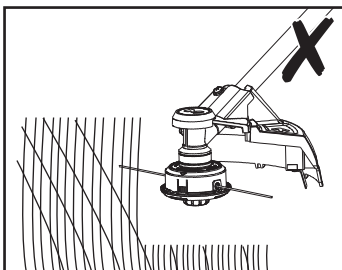
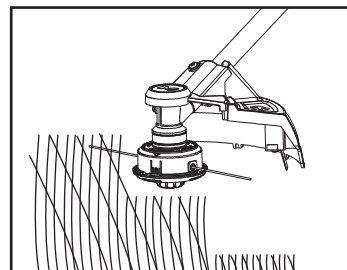

Fig. 21
Fig. 22
6. Ensure the cutting device remains clean and free from off-cuts that may cause it to jam. Check regularly. Release the on/off switch (1) and remove the battery pack before checking.
7. Trim longer grass in stages; do not cut long grass in one cut (Fig. 21). For the best results, cut longer grass in steps (Fig. 22).